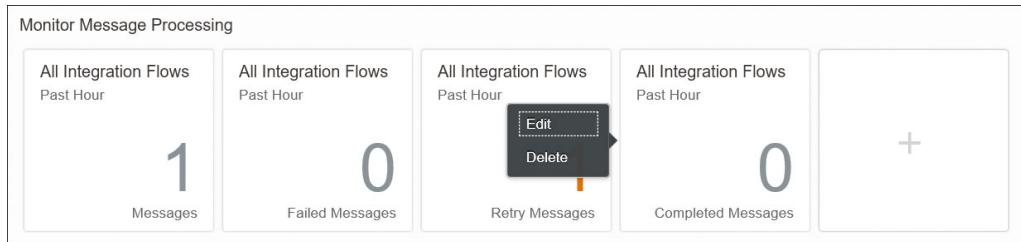

Figure 8.20 Editing and Managing Monitor Message Processing Tiles
2. From the resulting context menu, select the **Delete** option, as shown in Figure 8.20.